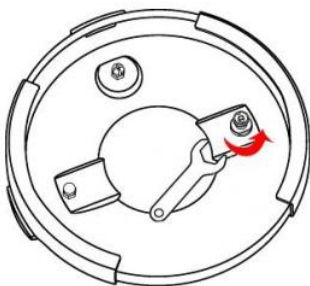
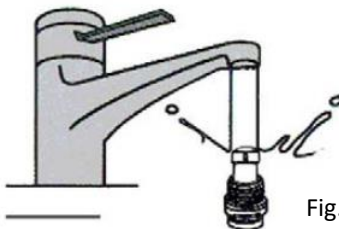

Fig.15
Fig.16
- ※ **Safety open-preventing valve:** Switch anticlockwise safety valve with spanner, then dismantle it (Fig. 15). Then wash it cleaning as Fig. 16.